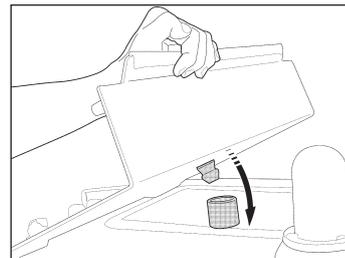

Abb. OZ5
- ➔ Now fold the cockpit cover downwards and press it down until it latches into the locking device (Fig. OZ5).